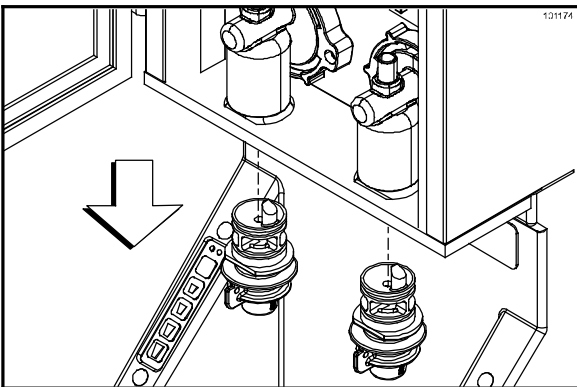

Figure 32
4. Remove the nozzles from both pump heads. (See Figure 32.)